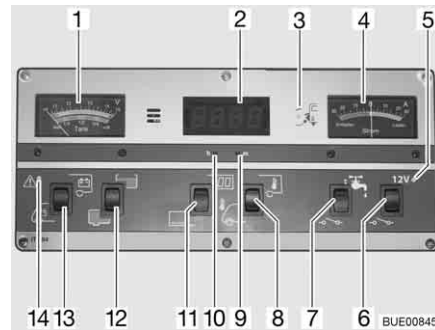

Fig. 162 Panel IT 994
With the V/tank gauge (Fig. 162,1), note the top scale. The gauge automatically lights up as soon as a switch is pressed.
- Press the lower part of the rocker switch (Fig. 162,13): The battery voltage of the starter battery is displayed.
- Press the upper part of the rocker switch (Fig. 162,13): The battery voltage of the living area battery is displayed.
With the V/tank gauge (Fig. 162,1), use the bottom scale. The gauge automatically lights up as soon as a switch is pressed.
- Press the upper part of the rocker switch (Fig. 162,12): The volume of water is displayed.
- Press the lower part of the rocker switch (Fig. 162,12): The volume of waste water is displayed.
The red ALARM warning light (Fig. 162,14) flashes as soon as the voltage of the living area battery falls below 11 V (measured under operation) and there is a risk of a total discharge.
- Press the upper part of the rocker switch (Fig. 162,11): Digital clock display is switched on. Temperature display is ready to operate.
- Press the lower part of the rocker switch (Fig. 162,11): Digital clock display and temperature display are switched off.
- Press a thin device, such as a biro, into the opening for the hour display (Fig. 162,10) until the correct hours are displayed.
- Press a thin device, such as a biro, into the opening for the minute display (Fig. 162,9) until the correct minutes are displayed.
- Press the upper part of the rocker switch (Fig. 162,8): The internal temperature is displayed.
- Press the lower part of the rocker switch (Fig. 162,8): The external temperature is displayed.
The battery current actually flowing is permanently displayed on the current gauge (Fig. 162,4). The gauge automatically lights up as soon as a switch is pressed.
The 12 V main switch (Fig. 162,6) switches the panel and the 12 V power supply of the living area on and off.
Switching on: ■ Press the upper part of the rocker switch (Fig. 162,6): The 12 V living area power supply is switched on. The indicator lamp (Fig. 162,5) lights up green.
Switching off: ■ Press the lower part of the rocker switch (Fig. 162,6): The 12 V living area power supply is switched off. The indicator lamp (Fig. 162,5) goes out.
The 12 V indicator lamp (Fig. 162,5) illuminates whenever the 12 V main switch (Fig. 162,6) is switched on.
The yellow 230 V indicator lamp (Fig. 162,3) illuminates whenever line voltage is available at the transformer/rectifier input.
Switching on: ■ Press the upper part of the rocker switch (Fig. 162,7): The water supply is ON.
Switching off: ■ Press the lower part of the rocker switch (Fig. 162,7): The water supply is OFF.